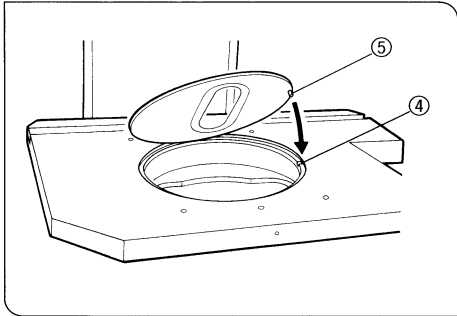

Fig. 4
Attach the stage plate by aligning the pin hole on the stage (4) with the guide pin (5) on the stage plate. (Fig. 4)